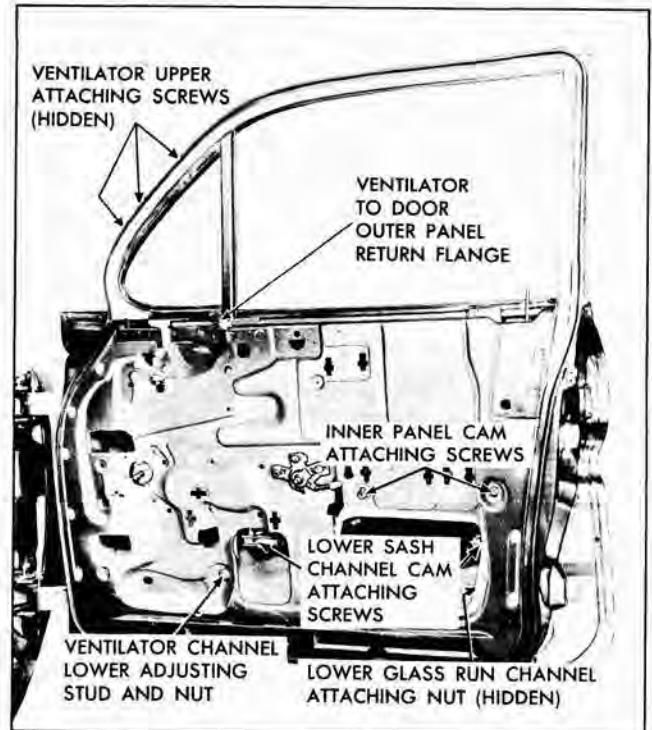

Fig. 3-27 Front Door Inner Panel
5. Remove ventilator upper attaching screws along window frame (Fig. 3-27).
5. To adjust limit of "up" travel of window assembly for proper contact with side roof rail weatherstrip, raise door window and through inner panel access holes loosen door window front and rear stop assembly attaching screws. Adjust stops up or down as required, then tighten attaching screws (Fig. 3-27).